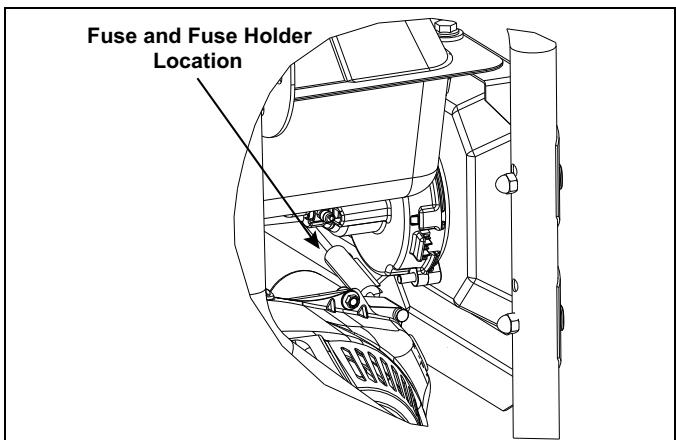

Figure 4-8. Battery Fuse Location
- The battery charger fuse is located behind the control panel as shown in Figure 4-8.